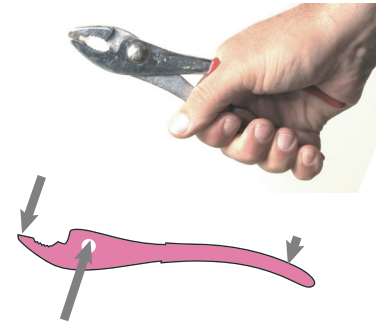
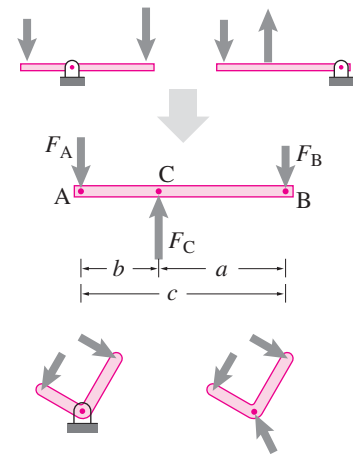

Figure 7.26: One half of a pair of pliers is one of many classic lever examples.
Figure 7.27: A lever can have the pivot in various places. The free-body diagram looks the same whether the pivot is at the left, middle, or right.
One of the simplest machines, long understood, and even longer used by humans, is a lever (e.g., fig. 7.26 and the top of fig. 7.27). Although now we think of statics as a special case of dynamics, statics is, and was, a well-founded subject, independent of dynamics. The statics of a lever was well understood 50 generations before Newton discovered modern dynamics.
The free-body diagram fig. 7.27 is the same whether the hinge is at point A, B or C^①.
Lots of things can be viewed as levers including, for example, a wheelbarrow, a hammer extracting a nail, a boat oar, one half of a pair of tweezers, a brake lever, a gear, and, most generally, any three-force body. Using the equilibrium relations on the free-body diagram in fig. 7.27 you get that